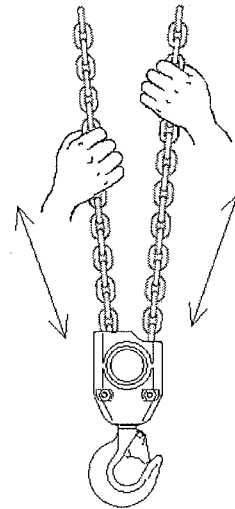

Fig.8
- 4) Check Chain wheel in Hook block rotates smoothly (See Fig. 8).